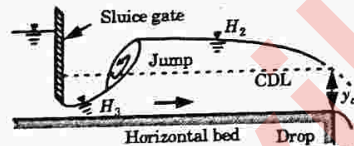

Fig. 2.16.7. H_2 and H_3 profiles.
- The H_2 and H_3 profiles are similar to M_2 and M_3 profiles respectively as shown in Fig. 2.16.7. However, the H_2 curve has a horizontal asymptote.